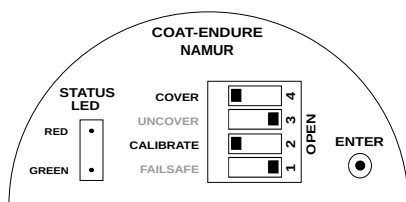

Figure 54: High Calibration Switch Position
- To start with the calibration, set the CALIBRATE & COVER switch to CLOSE (Opposite of OPEN for DIP switch) position as shown in Figure 54.
- Set the CALIBRATE and COVER switch to CLOSE (Opposite of OPEN in a DIP switch) position as shown in Figure 54.